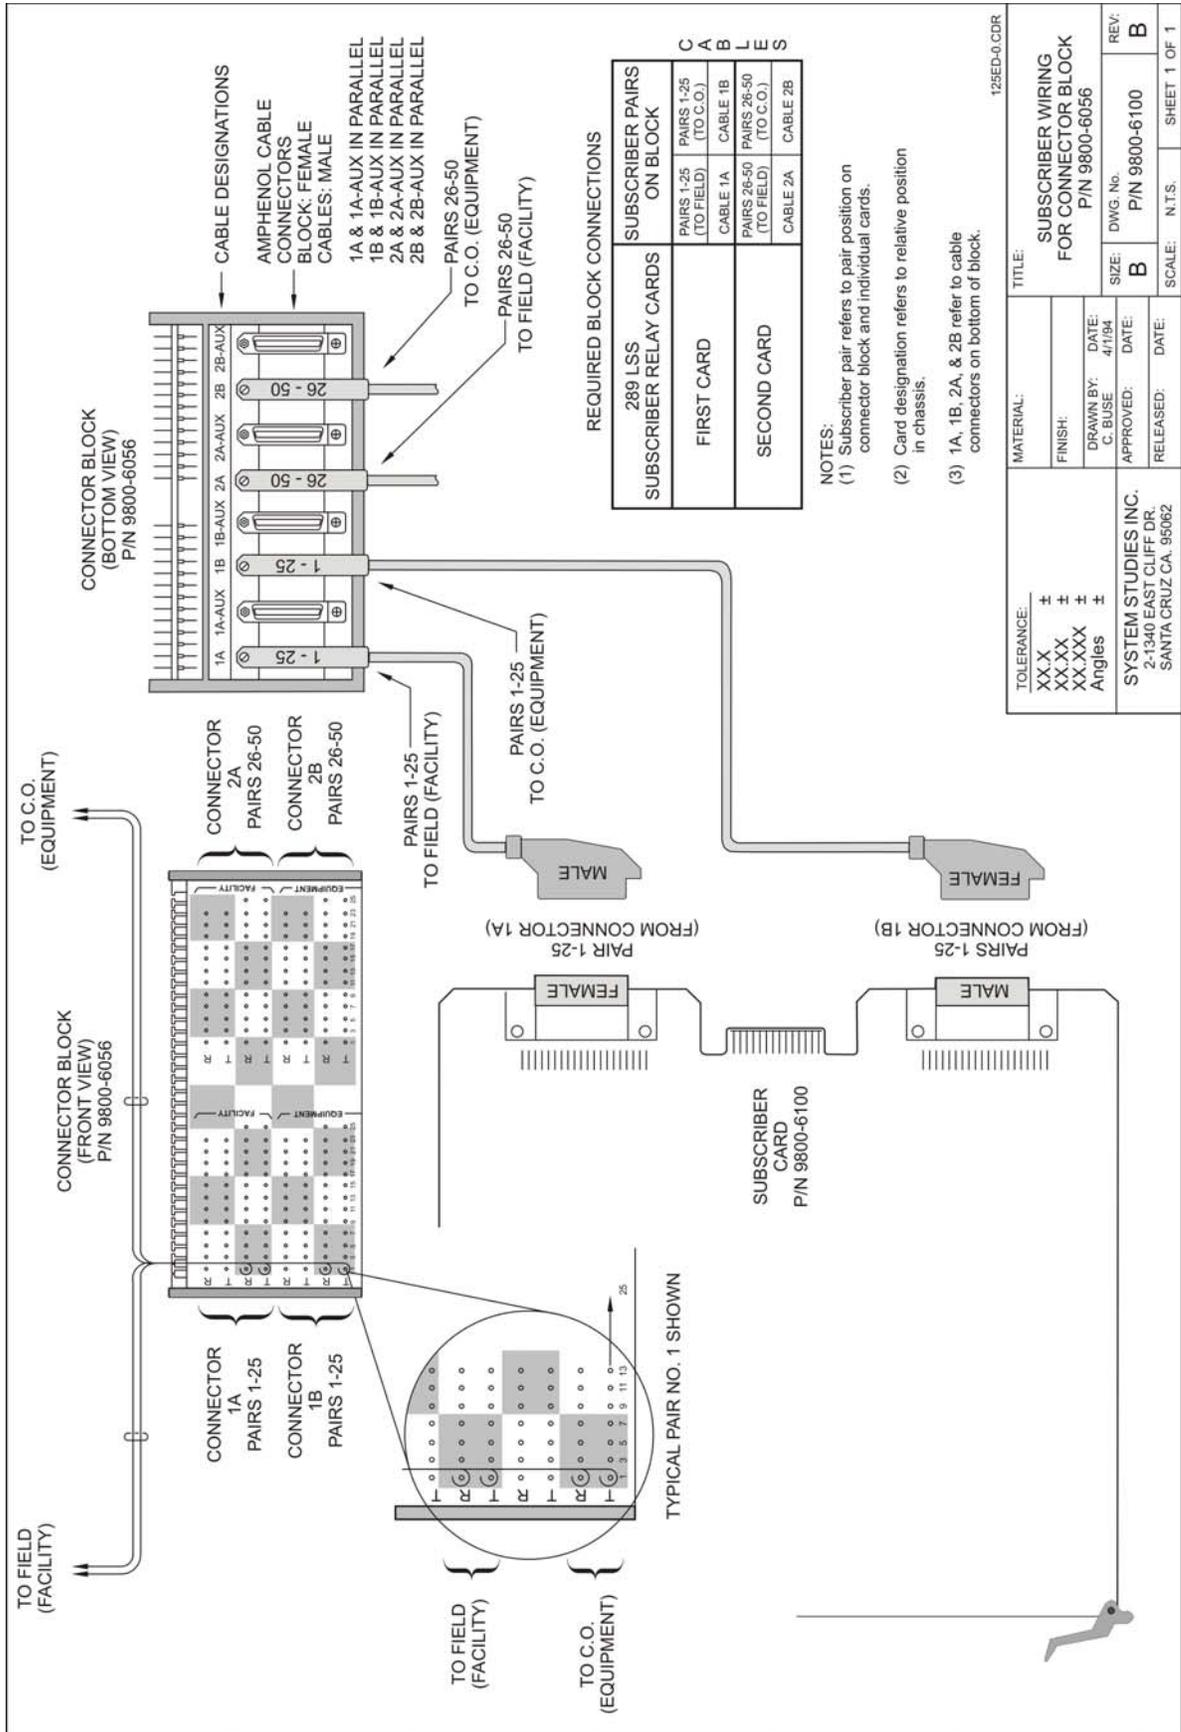

FIGURE 4-2: SUBSCRIBER WIRING FOR CONNECTOR BLOCK
3. Device circuits (jumpers) from the central office (Equipment) **MUST** be wired to the tip and ring pins located on the **BOTTOM** of the block (refer to FIGURE 4-2.)
5. Female cable connectors 1B and 2B, located on the block underneath the wire wrap pins, are internally wired to the four horizontal rows of pins on the bottom of the block. Connector 1B (containing the CO Equipment circuits 1-25) **MUST** be cabled to the **BOTTOM** connector of the first subscriber relay card (refer to FIGURE 4-2). Connector 2B (containing CO Equipment circuits 26-50) **MUST** be cabled to the **BOTTOM** connector of the next subscriber card installed in the chassis.